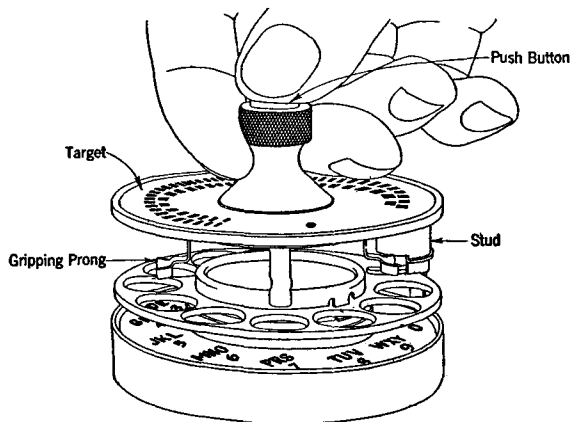

Fig. 1
- 3.01 Mount the stroboscope equipped with target on the dial to be tested by grasping knurled knob and depressing the push button to expand the prongs as shown in Fig. 1 (use of push button is important when mounting the target to avoid marring the finish).
- 3.02 Partially insert notched stud and prong into "Zero" hole of finger wheel so that the remaining 3 prongs are above the finger wheel holes associated with Figs. 1, 4 and 7 on the number plate of the dial. While still depressing push button, carefully press target into place and then release push button.